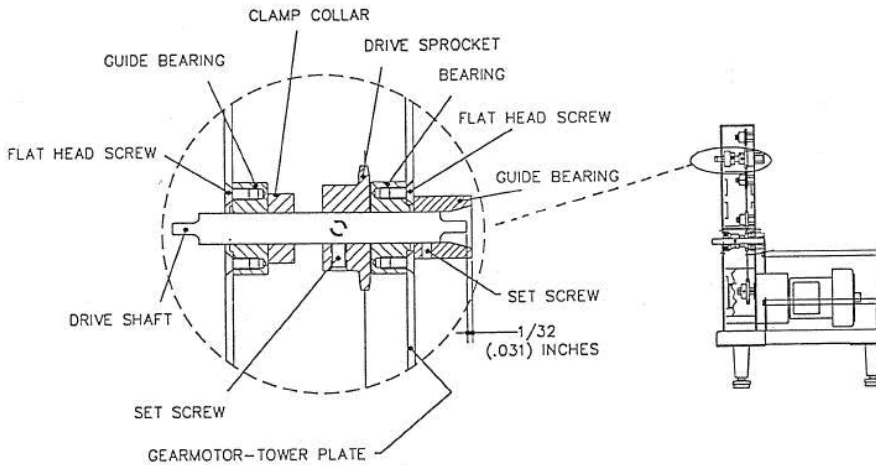
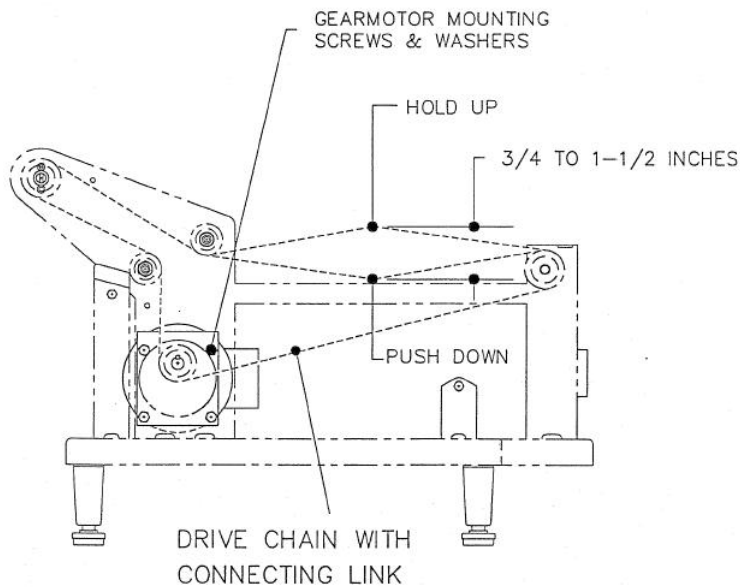

Figure 22
Figure 23
9. Reassemble the drive shaft assembly with new components. Assure that the drive sprocket is installed as shown in **Figure 22** and that the drive chain engages the other sprockets as shown in **Figure 23**.
(Figure 22 & 23)
9.1.6.1 Batter Drive Shaft Service (Continued) (See Figure 22)